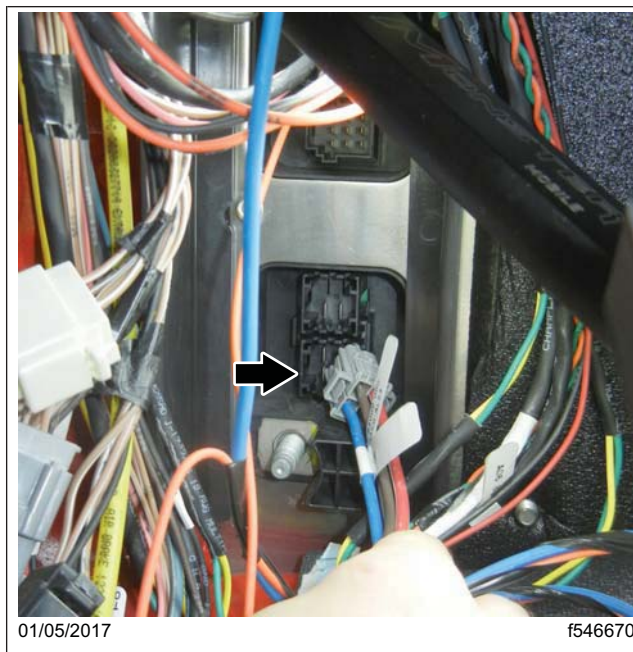

Fig. 10, Inserting the 4-Wire Connector into Slot X55 on the SAM Chassis
- 16. Plug the 4-wire connector on harness A06-93000-000 into slot X55 on the SAM Chassis. See Fig. 10.